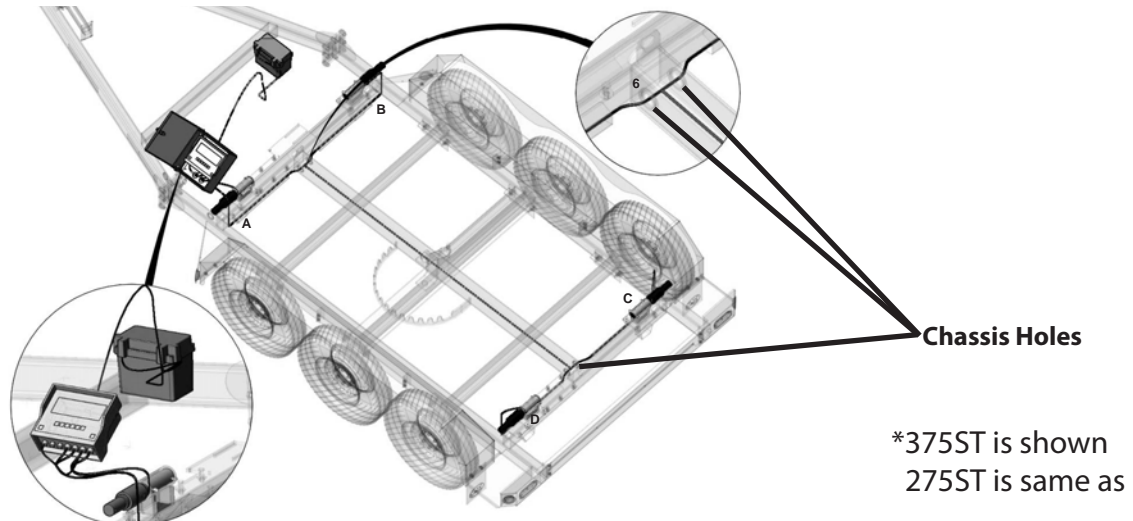

Figure 6.3
8. Torque each bolt down to 85 ft-lbs on all 4 Scale Mounting plates (Figure 6.3).
9. Remove the four 1 3/8" grommets located in the four chassis holes (Figure 6.3)
10. Slide one grommet on to each of the weigh bar wires of B,C, and D. (Figure 6.3)
11. Route each wire from B,C and D so they exit chassis hole (Figure 6.3).
12. Slide the grommet from chassis hole over the wires from B, C, and D. (Figure 6.3).
13. Reinstall the grommets back into the chassis holes. (Figure 6.3).
14. Push excess wires into chassis hole (Figure 6.3).
22. Push extra wire back into chassis holes. (Figure 6.3)